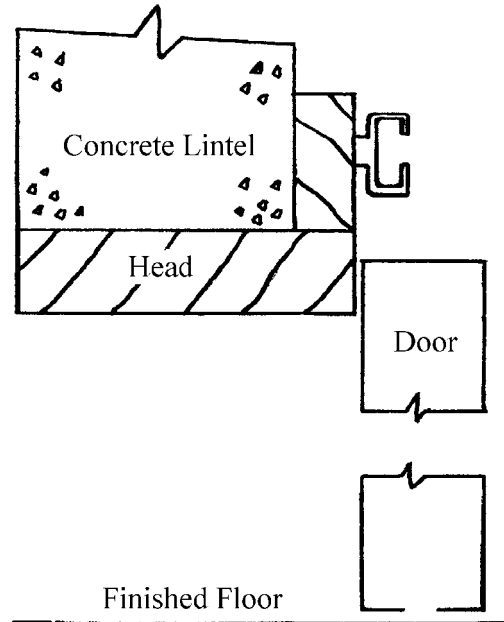

Fig.2
6. Figure 2 shows the vertical section through an internal door opening to a kitchen. Complete the drawing to show the methods used to suspend a sliding door.